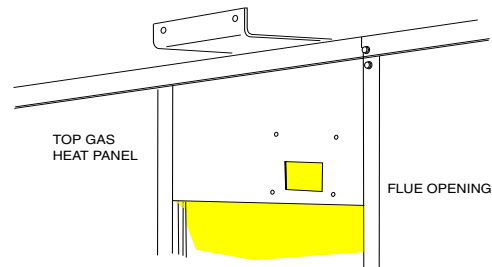

FIGURE 3 : INSTALLED TOP GAS HEAT PANEL
5. Install the top gas heat panel (Item 1), provided with the Flue Exhaust Kit. See Figure 3. Re-install all panel screws originally provided.